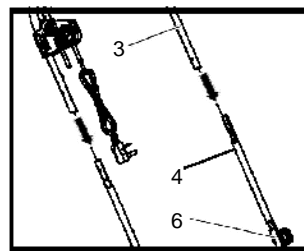

Fig. 4a
d). Align the upper handle bar (3) with the middle handle bar (5) and secure them with one mounting set (4) on each side. (See Fig. 4a, 4b).